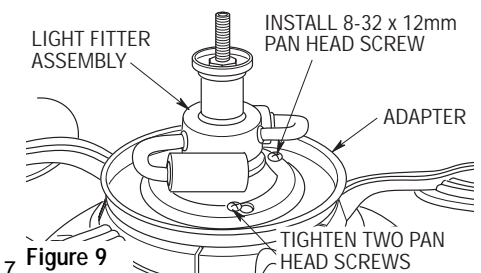

Figure 9
- 13. Position the adapter/light fitter assembly on the adapter holder so that the two 8-32 x 12mm screws in the holder protrude through the keyhole slots in the adapter (Figure 9). Turn the adapter counterclockwise and then tighten the two screws. Securely install another 8-32 x 12mm pan head screw into the remaining hole in the adapter holder.